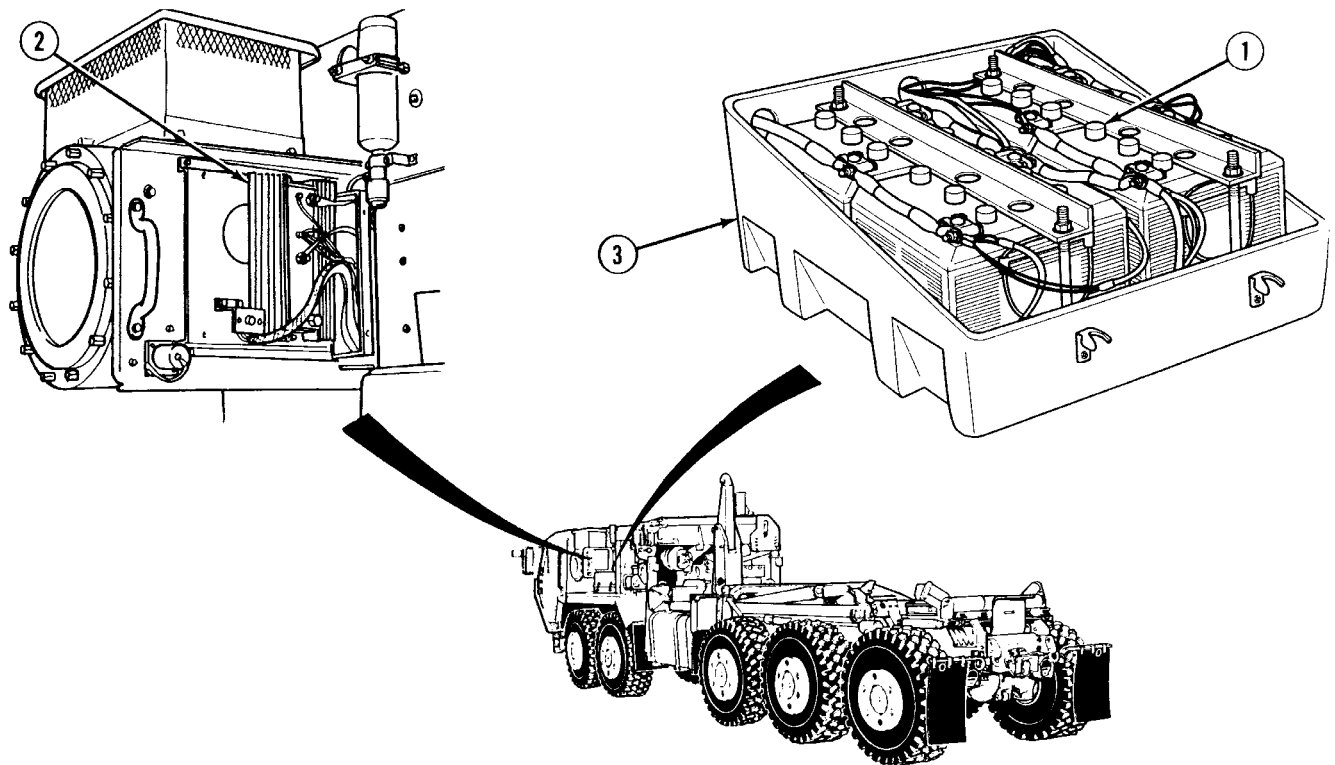

Figure 1-10. Electrical System
Electrical system (Figure 1-10) power is provided by four 12-volt series-parallel connected batteries (1). PLS trucks are either equipped with the dual voltage control system (DUVAC) and a 145 AMP alternator or the polarity protection system and a 200 AMP alternator. The DUVAC (2) delivers up to full alternator output on demand to either the 24 volt load, 12 volt load, or any combined load requirement from a single alternator. The DUVAC system can maintain battery equalization and balance even when the batteries are not matched or when they are in different charge states. Separate voltage regulation is provided for each battery bank. The battery box (3) is located on the left-hand fender and vents to the truck exterior. This location provides protection from the environment and allows ready access for service. The fiberglass battery box cover is designed to prevent short circuits during maintenance and operation. Power is distributed throughout the truck by wiring harnesses. The harnesses are interconnected by pin connectors. Connectors are provided at the rear of the truck to supply power for towed loads.